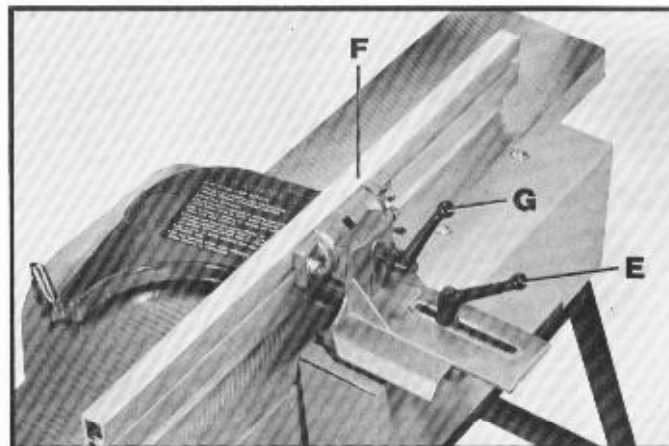

Fig. 26
1. To move the fence across the table, loosen lever (E) Fig. 26, slide the fence (F) to the desired position on the table, and tighten lever (E).
2. To tilt the fence, loosen lever (G) Fig. 26, and tilt the fence (F), to the desired angle, right or left, and tighten lever (G). NOTE: Levers (E) and (G) Fig. 26, are spring-loaded and can be repositioned by pulling up on the levers and repositioning them on the serrated nut located underneath the levers.